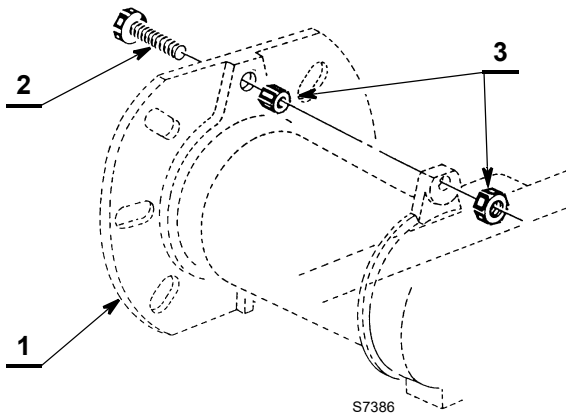

Fig. 7
- Put on the flange 1)(Fig. 7) the screw 2) and two nuts 3).